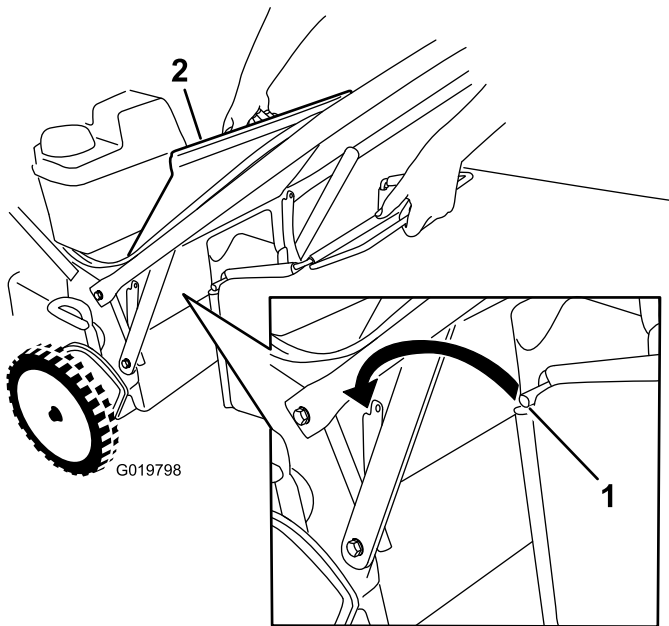

Figure 22
1. Raise and hold up the rear deflector (Figure 22).
3. Install the bag rod into the notches at the base of the handle, and rock the bag back and forth to ensure that the rod is seated at the bottom of both notches; refer to Figure 22.